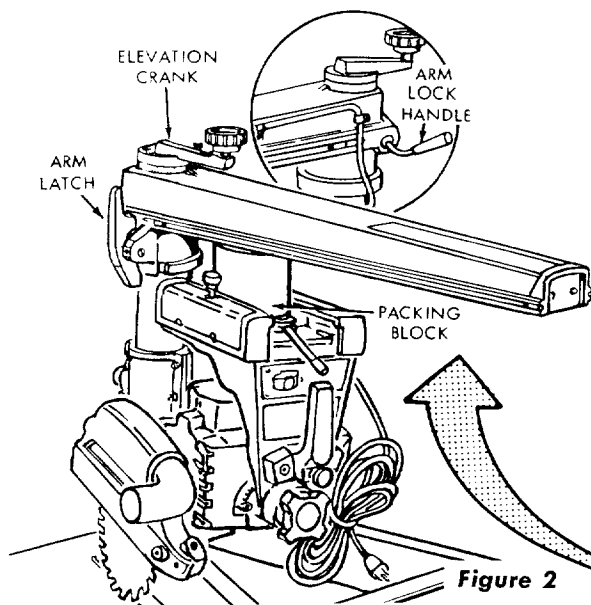

Figure 2
- Rotate the elevation crank (figure 2) counterclockwise approximately 20 turns to raise the radial arm free of the carriage.
- Loosen the arm lock handle (figure 2), engage the arm latch handle, then tighten arm lock handle firmly.